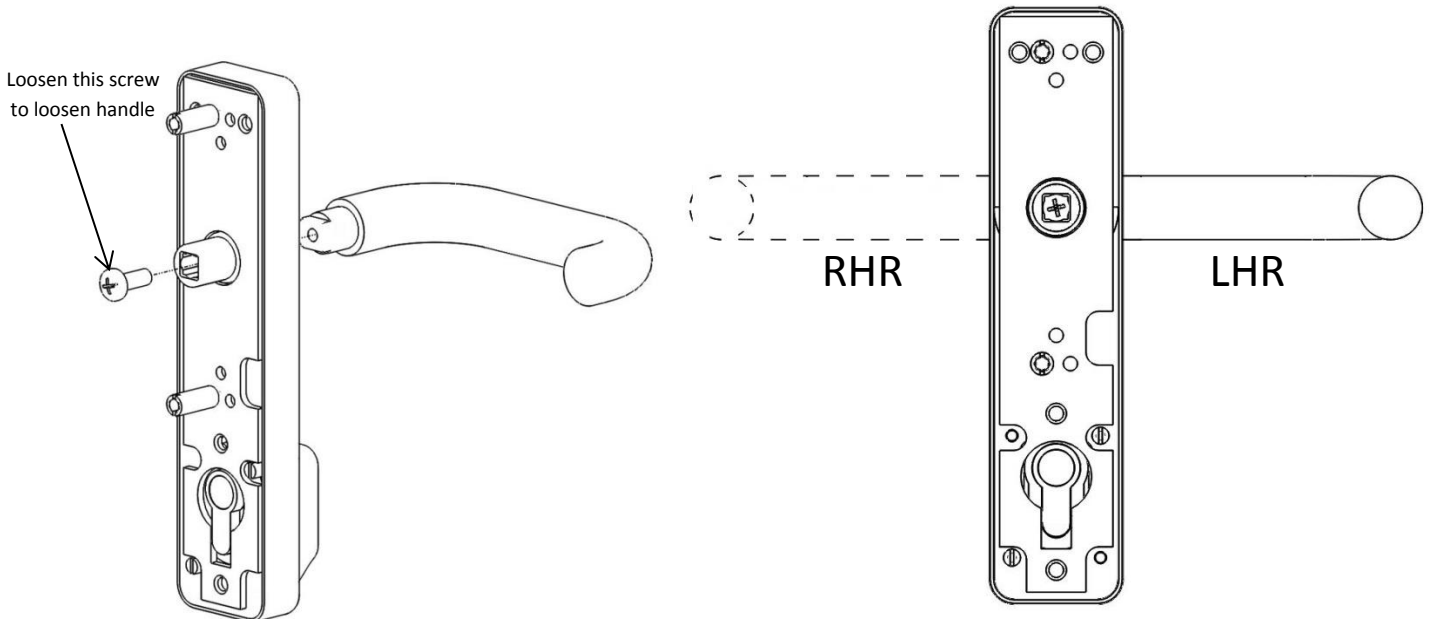

Figure 1
- a. Loosen screw shown in figure 1